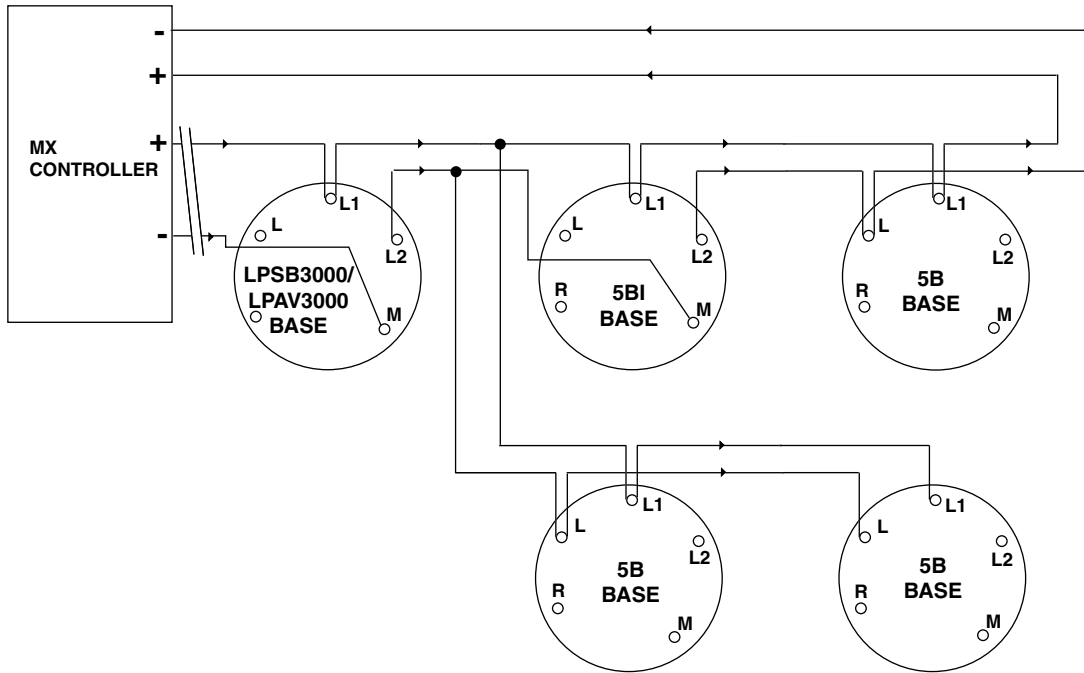

Fig. 7 AV - Simplified Wiring Diagram
- Wire the AV base as shown in Fig. 7 ensuring correct polarity.